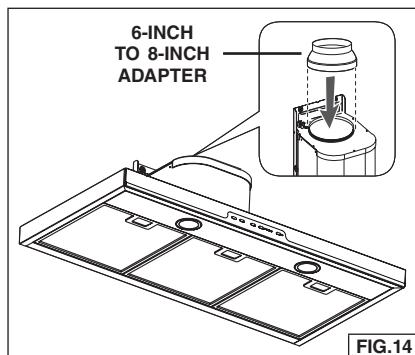

FIG.14
2. Attach the 6"-to-8" adapter to blower discharge and tape joint with aluminum duct tape. Fig. 14.